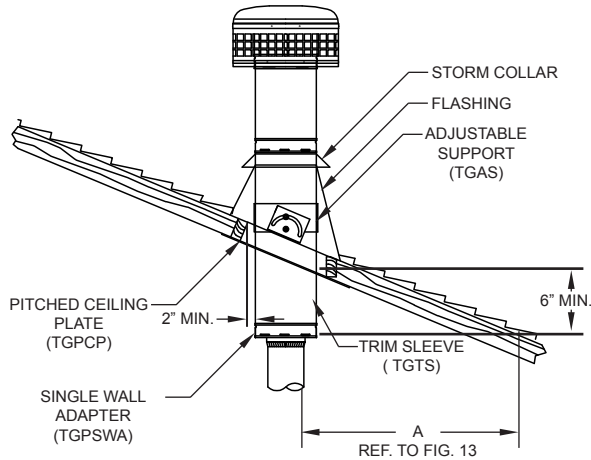

FIG. 14
2. Using framing lumber equal to ceiling joist size, frame opening providing a minimum 2" clearance from the chimney outer wall casing to combustibles. Opening dimensions will vary based on roof pitch (slope). See FIG. 14 for typical installation without clearance shields.
9. **WARNING:** Use only Single Wall or Double Wall Black Stove Pipe below the ceiling line as shown in FIG. 14 and 14a. Use of additional TG pipe as a connector is prohibited.